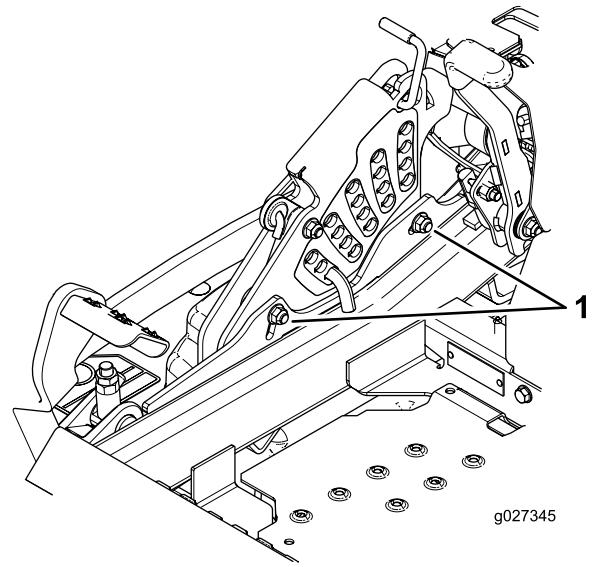

Figure 91
11. To adjust the single-point system, loosen the 2 bolts at the bottom of the height-of-cut plate (Figure 91).
13. Tighten the 2 bolts at the bottom of the height-of-cut plate (Figure 91). T